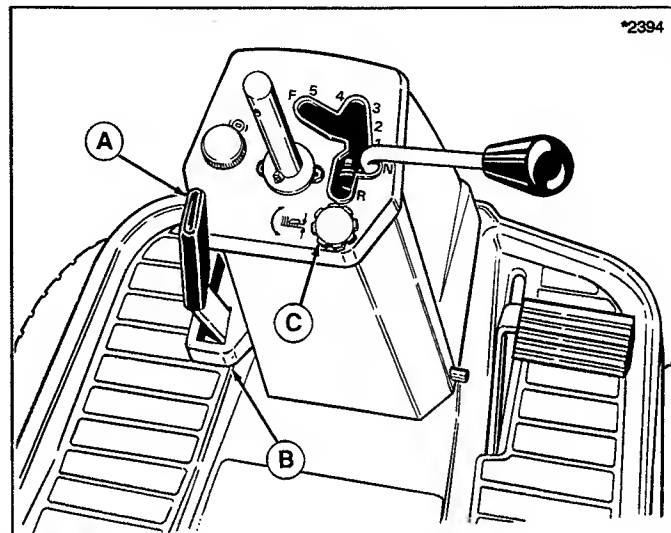

Figure 10.
Mower cutting height can be changed by turning the Dial-A-Cut™ control (C, figure 10). Turn the control knob clockwise to raise the mower cutting height and counterclockwise to lower mower. Pulling back slightly on the mower lift lever (A) will take mower weight off the control knob and allow for easier turning.
Pull back on the mower lift lever (A) and move into the transport gate on the quadrant (B) as shown in figure 10 to place mower in the transport position.